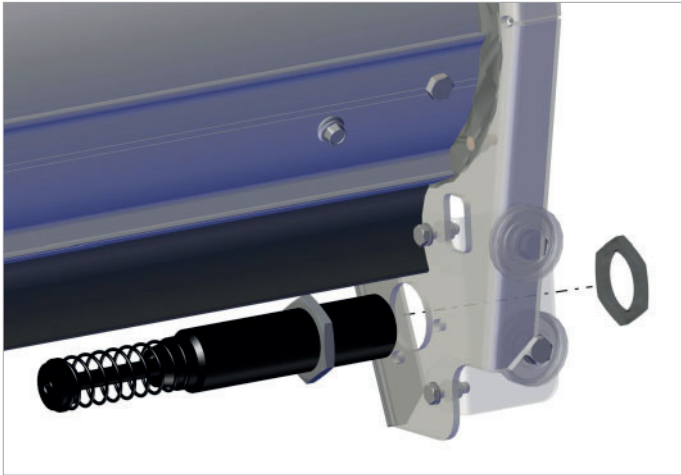

Fig. 5.3.5 Mounting the hydraulic shock on the cover plate
- Mount the shock (or hydraulic shock absorber) on the coverplate with the provided fastening materials. Refer to fig. 5.3.5